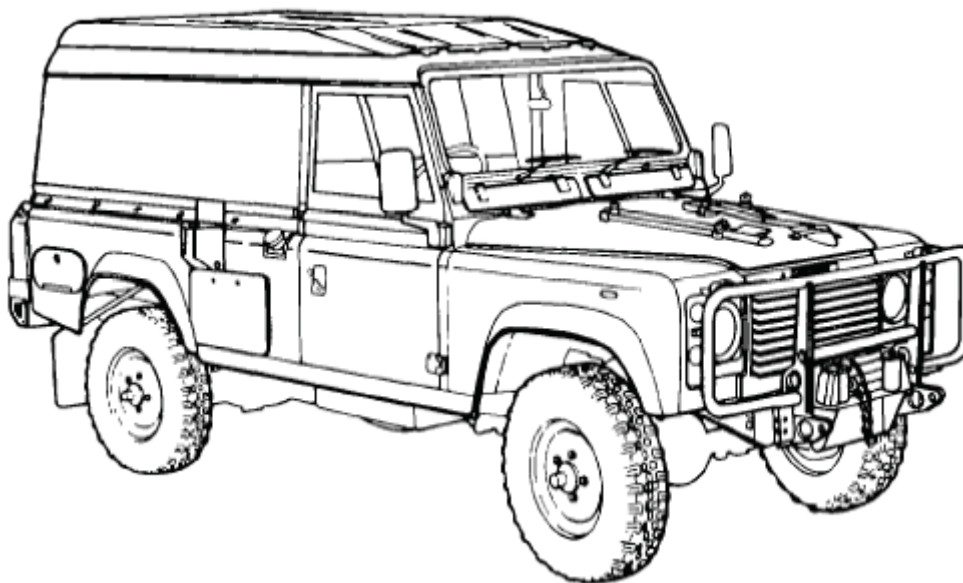

Figure 1 Truck, Panel, Lightweight, Survey, FFR, Winch, MC2 – Land Rover 110 4x4
1. This EMEI lists basic data for the Truck, Panel, Lightweight, Survey, FFR, Winch, MC2 – Land Rover 110 4x4, as shown in Figure 1. Information applicable to the Land Rover cab/chassis is contained in EMEI Vehicle G 100 – Truck, Utility, Lightweight and Truck, Utility, Lightweight, Winch, MC2 – Land Rover 110 4x4 – Data Summary.